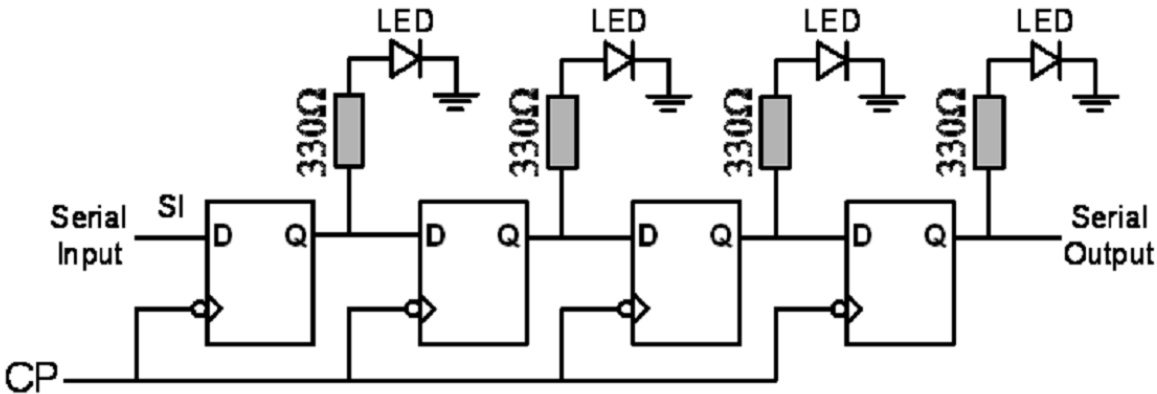

Figure 8.3 The schematic of a 4-bit shift register
2. **Construct** the shift register given in Figure 8.3 by using two 74LS74 ICs.